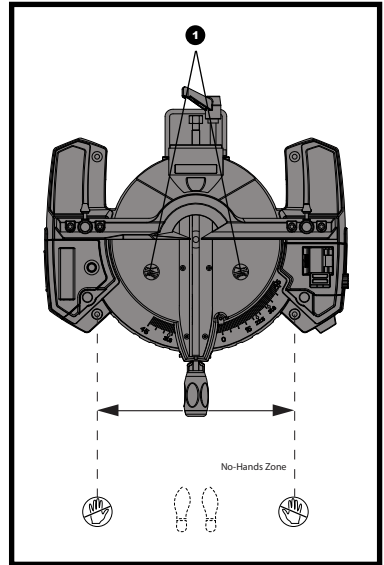

Fig 24
- Place hands at least 190.5 mm away from the blade – out of the “no-hands zone” (1). (See fig. 24)